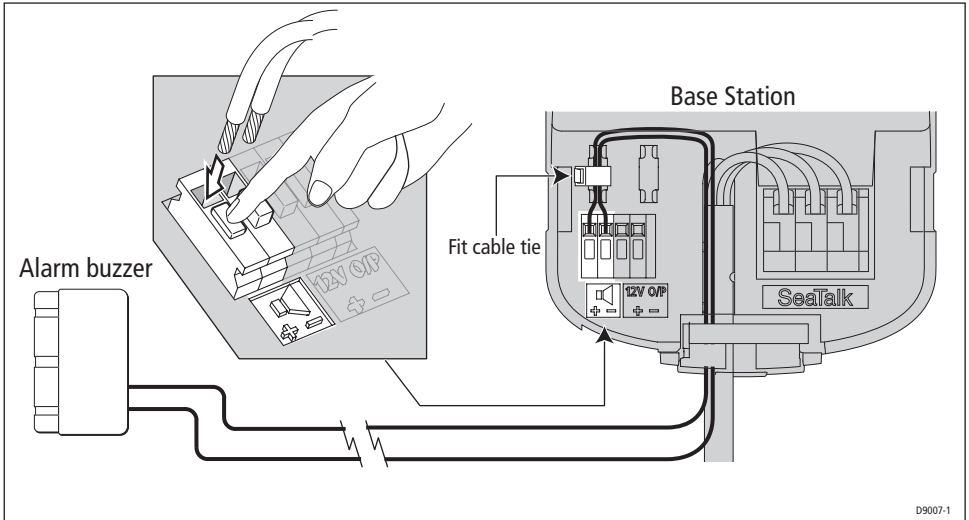

Figure 8 - Alarm buzzer connections
2. Temporarily connect the alarm buzzer to the Base Station, as described in *Figure 8*.
2. Temporarily connect the Master Base Station to the alarm buzzer (see *Figure 8*).